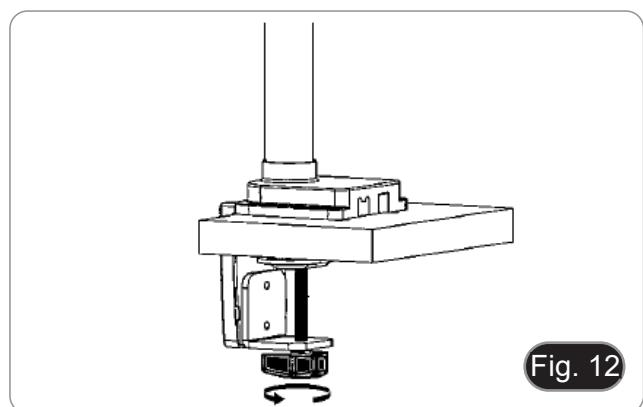

Fig. 12
5. Attach the plastic cover (H) to the clamp holder, then fix the assembly to the table by screwing the fixing knob. (Fig. 12)
- **NOTE:** The plastic cover (H) also serves as a container for the Allen keys used for assembly and tension adjustment of the various parts.